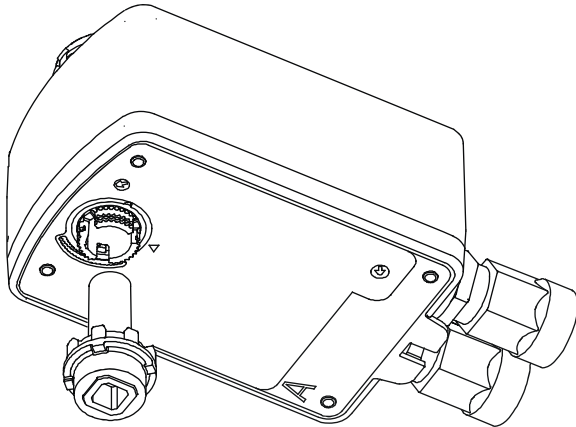

Figure 12: Inserting the Drive Shaft
4. Insert the drive shaft into Side A (Figure 12). The drive shaft is keyed for one-way assembly. With gentle pressure applied, rotate the drive shaft until the key aligns and the drive shaft falls into place.